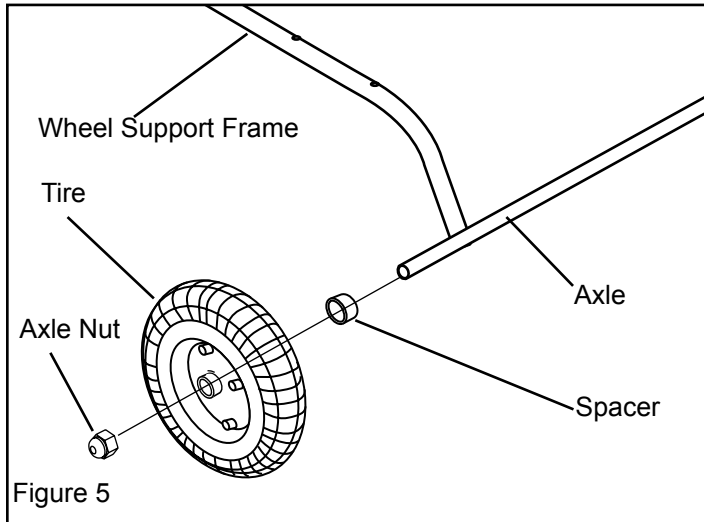

Figure 5
3. Slide wheel onto axle with the air valve facing out and hold in place with the axle nuts. (See Figure 5).
10. Secure the rear handle with (2) short screws (30 mm) and (2) nuts and tighten firmly